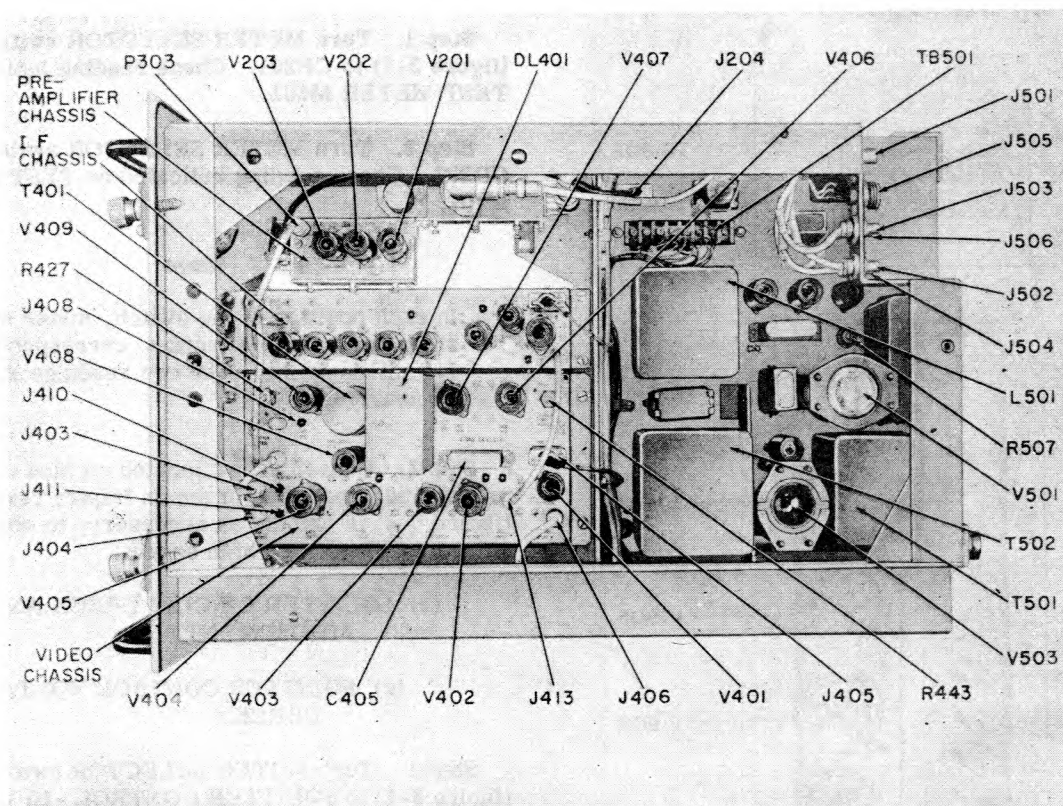

Figure 6-3. Radio Receiver, R824/URN, Right Side View
Step 2. If reading is not correct, adjust potentiometer R507 (figure 6-3) to obtain a reading of exactly 75 scale divisions (+150 volts dc).
Step 7. Carefully adjust potentiometer R427 (figure 6-3) until count is  $2700 \pm 90$  pulses per second. Squitter control voltage as read on TEST METER M501 should be approximately -5 volts.
Step 3. Using 10-microsecond markers, adjust potentiometer R443 (figure 6-3) to obtain a pulse width of 40 microseconds.
(1) 1350-CPS IDENTIFICATION TONE OSCILLATOR ADJUSTMENT.